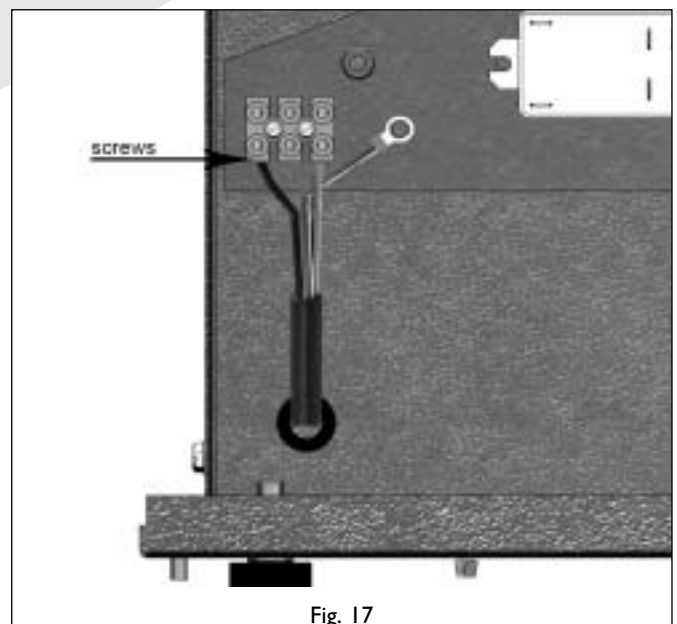

Fig. 17
- On the appliance, disconnect the electric wiring of the convection fan (see fig. 17).